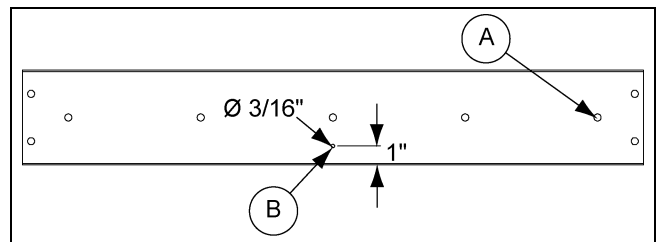

Figure 2 Vane Axial Shutter Top
Vane Axial Shutters: Remove the bolt holding the catch angle. (See Figure 2.)
Vane Axial Shutters: Drill a 3/16" hole (B) approximately 1.00" from the edge of the frame. (See Figure 2.)